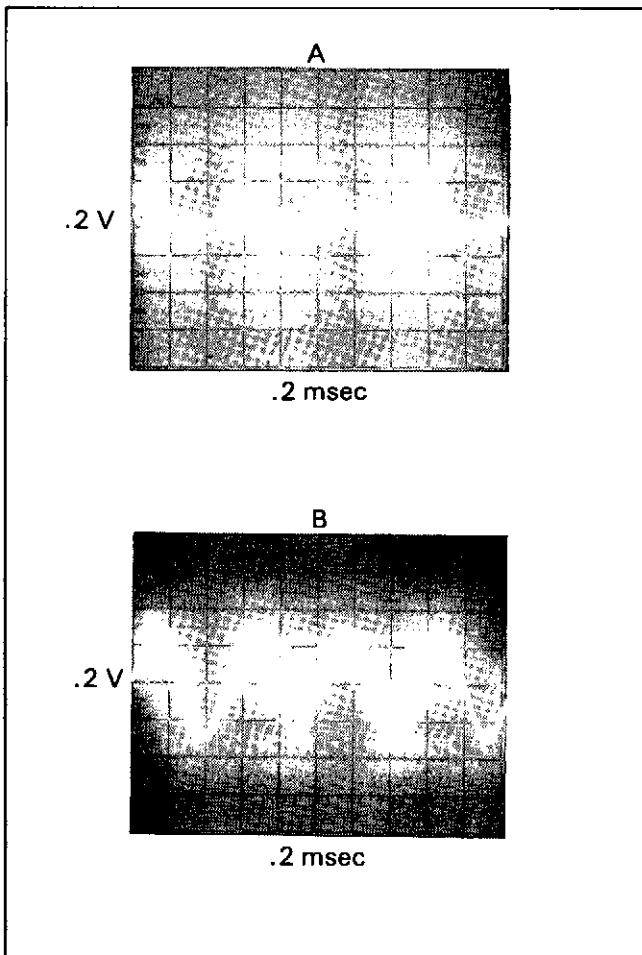

Figure 8-E-1. RMS Converter Waveforms.
- f. Using an oscilloscope, measure for the signal shown in Figure 8-E-1A at TP16. Make sure the signal is stable (not jumpy).
- h. If the signal at TP16 is good, check for the signal shown in Figure 8-E-1B at TP17.